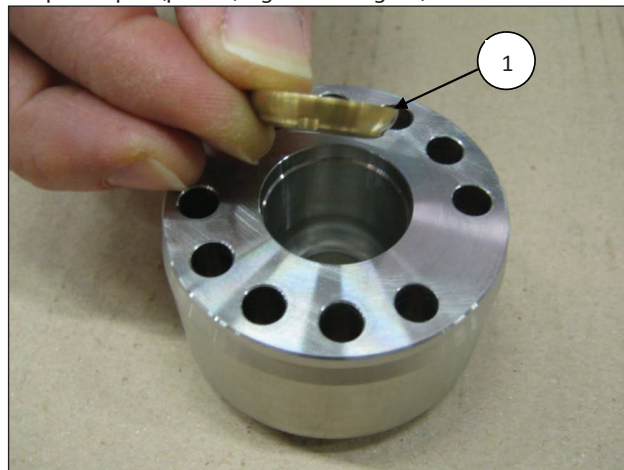
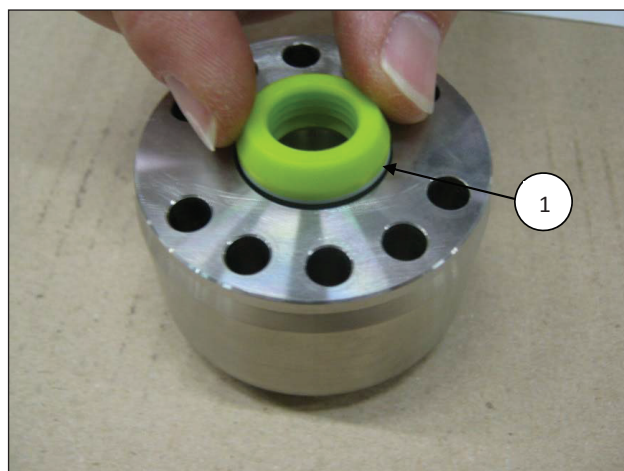
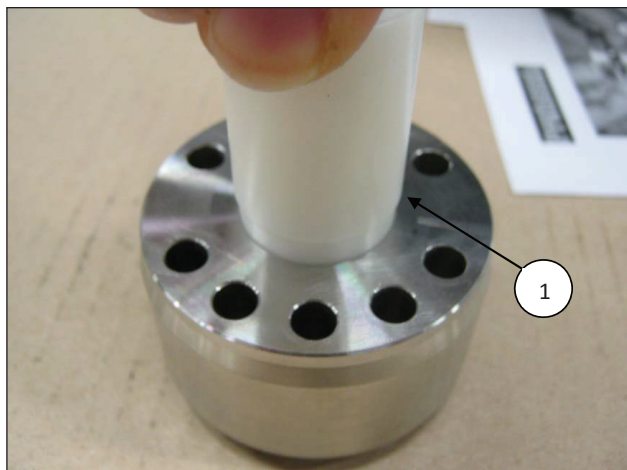

Fig. 56
Fig. 57
Fig. 58
- Introduce in the H.P. seals support, the head ring (pos. ①, Fig. 56) and then the H.P. (high pressure) packing; considering the slight interference between the seal and the H.P. seals support, to avoid damage we advise using a plastic pad (pos. ①, Fig. 57 and Fig. 58).
The H.P. seal must be inserted into the liner with the energizing O-ring in the working direction of the piston as shown in Fig. 57 and Fig. 59.